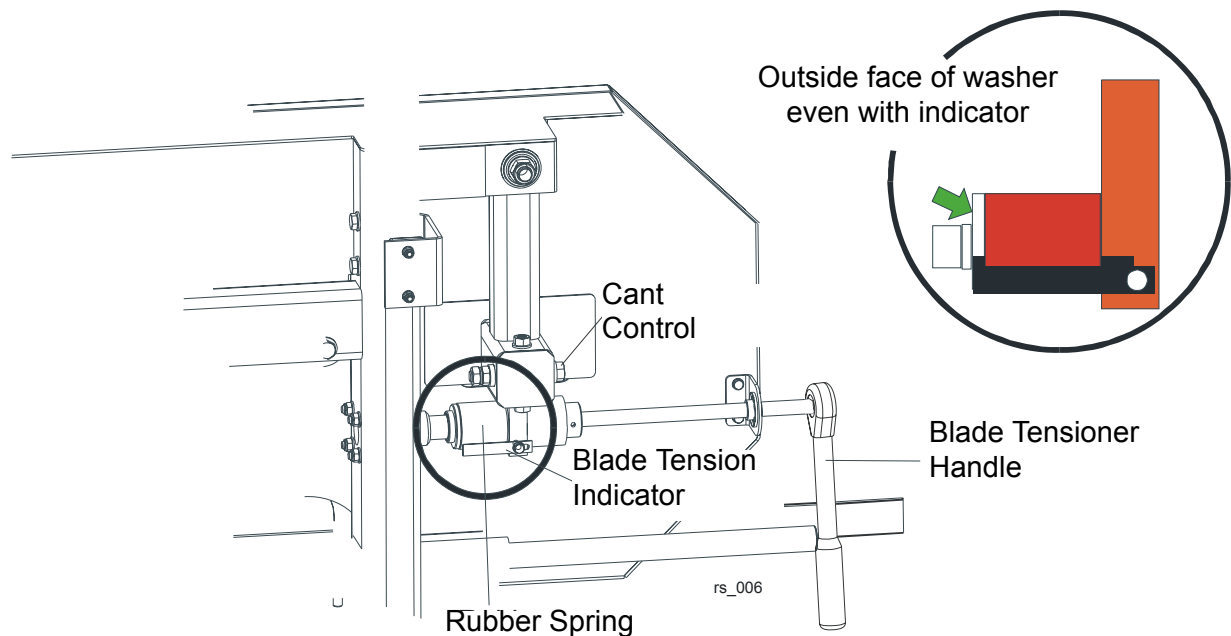

FIG. 2-13
See Figure 2-13. Place the provided ratchet on the blade tensioner shaft. Turn the ratchet clockwise until the outside face of the rubber spring washer is even with the indicator (see the figure below). Check the blade tension occasionally when adjusting the cant control or while cutting and adjust if necessary. As the blade and belts heat up and stretch, the blade tension will change. Also, ambient temperature changes can cause tension to change.
5. Use the cant adjustment bolt, shown in **Figure 2-13**, to adjust where the blade travels on the blade wheels.